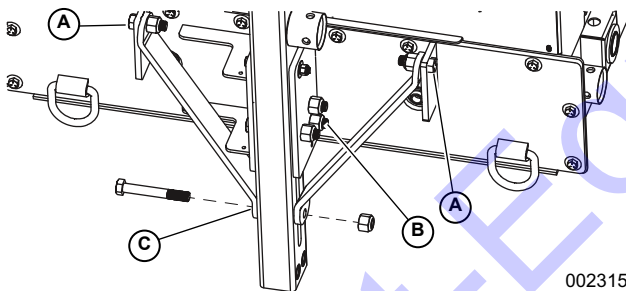

Figure 2-8. Remove Lower Bolt
3. See **Figure 2-8**. Loosen but do not remove the nylon lock nuts on bolts **A** and **B**.